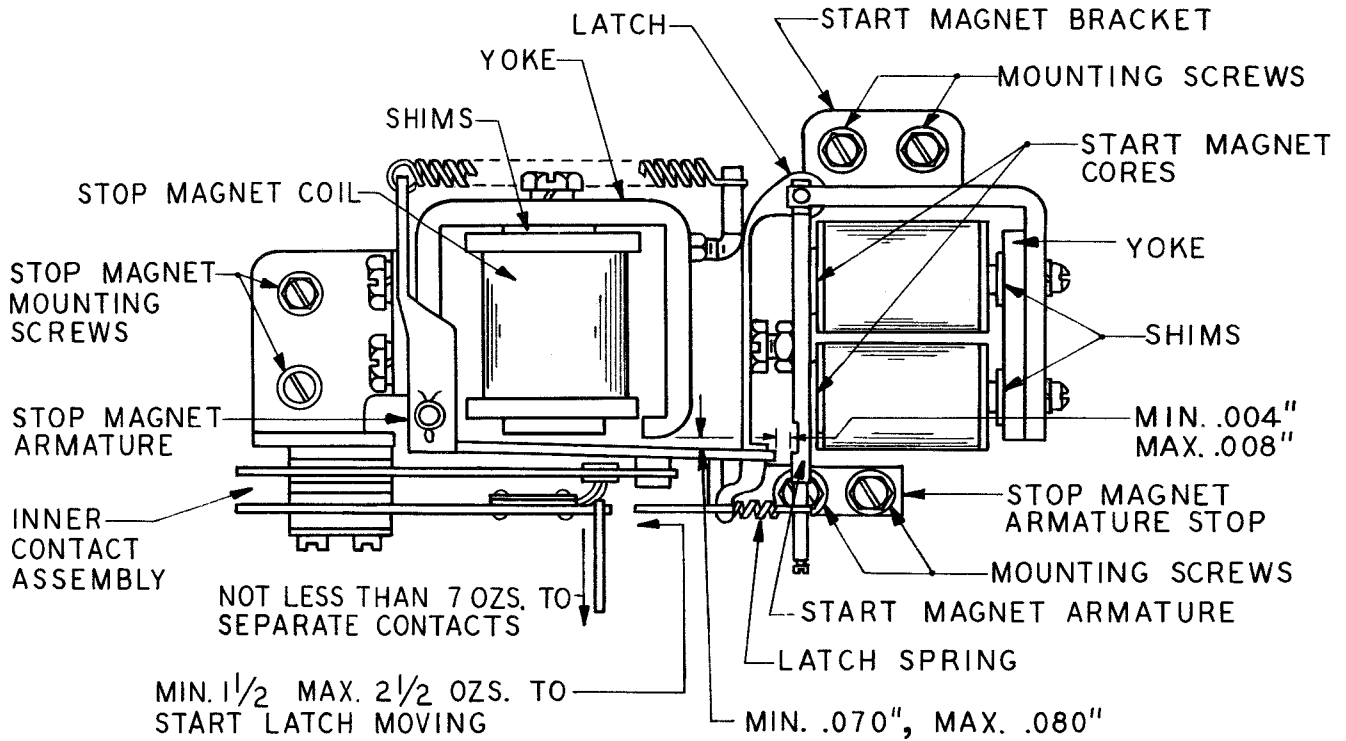

Figure 14
not be more than 0.004 inch clearance between the armature and the shortest core. See Figure 14 for location of parts.
2.32 Start-magnet Bracket: With the stop-magnet armature held so that the inside edge lines up with the outer shoulder on the start-magnet armature, there should be minimum 0.004-inch, maximum 0.008-inch clearance between the end of the stop-magnet armature and the start-magnet armature at the closest point. (See Figure 14.)
2.34 Stop-magnet Armature-stop: With the stop-magnet armature released against its stop, there should be minimum 0.070 inch, maximum 0.080 inch clearance between the stop-magnet armature and the outer face of the yoke. (See Figure 14.)
2.39 Latch-spring: With both armatures released, hook the 8-ounce scale over the latch between the spring and the shoulder and pull horizontally. It should require minimum 1-1/2 ounces, maximum 2-1/2 ounces to start the latch moving. (See Figure 14.)